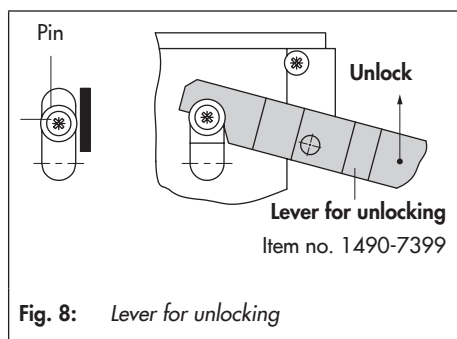

Fig. 8: Lever for unlocking
2. Place the lever for unlocking at the pins at the side on the connecting element (8) (see Fig. 8). Pull the lever upward until the spring mechanism is tensioned. The side pins are pushed downward and the spring assembly compressed. The pressure limiter is unlocked.
3. Place the lever for unlocking at the pins at the side on the connecting element (8) (see Fig. 8). Pull the lever upward until the spring mechanism is tensioned. The side pins are pushed downward and the spring assembly compressed. The safety pressure limiter is unlocked.